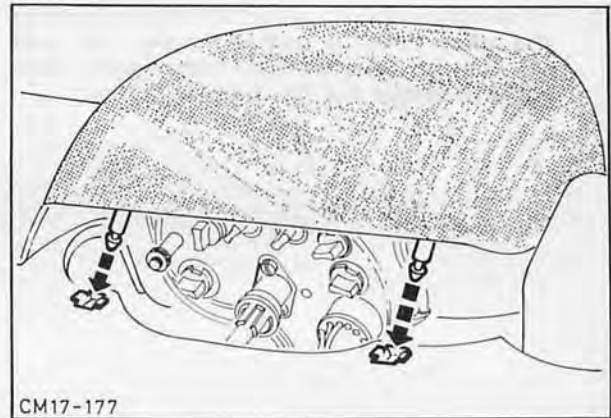

Fig. 53. Fit instrument cluster cowl
13. Fit instrument cluster cowl, Fig. 53.